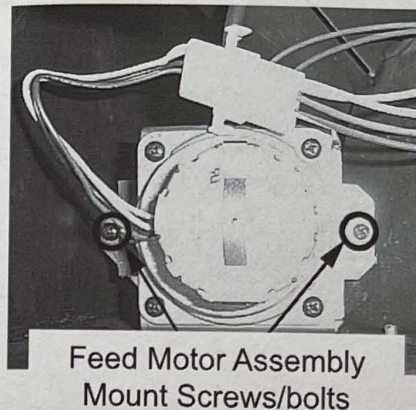

Figure 4
2. Remove the two (2) screws/bolts from the feed motor mount (**Figure 4**).